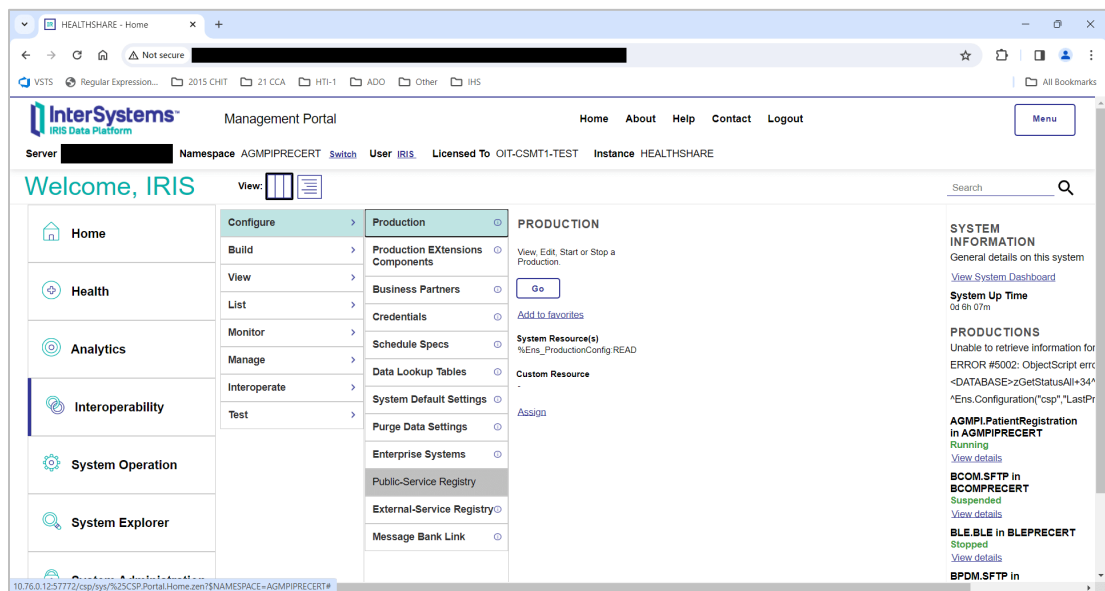

Figure 8-8: Management Portal page, Production option
1. On the main **Management Portal** page, click **Interoperability | Configure > | Production**, as shown in Figure 8-8.